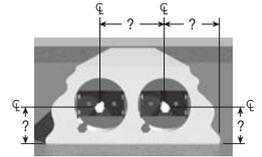

FIGURE 4A
**A)** Temporarily thread a 5/16" - 18 x 5" HEX HEAD CAP SCREW into center of the BEAR CLAW BRACKET and record the indicated center line measurements (FIG. 4A).